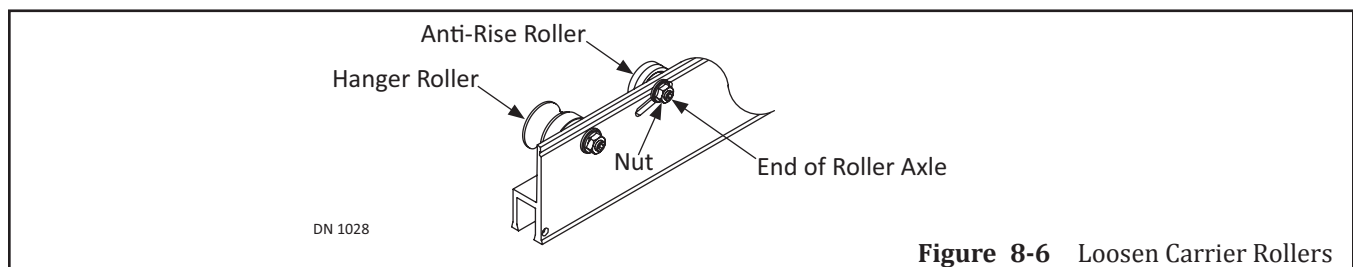

Figure 8-6 Loosen Carrier Rollers
1. To loosen a Roller, insert a 7/32" Allen wrench into the exposed end of a Roller Axle. Please see Figure 8-6.
2. Hold the 7/32" Allen wrench in place to keep the Roller Axle stationary. At the same time, loosen (1) 7/16-20 Whizlock nut with a 5/8" Open End Wrench.